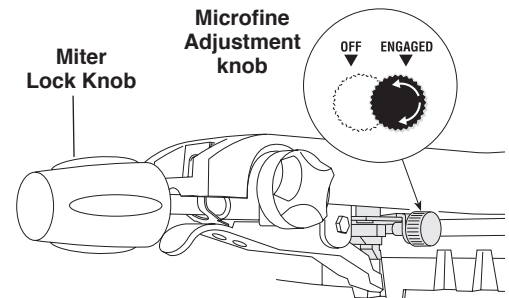

Figure 28. Microfine Adjustment System
3. Push the Microfine Adjustment knob forward to 'ENGAGED' position. This engages the system into the detent slot (Figure 28).